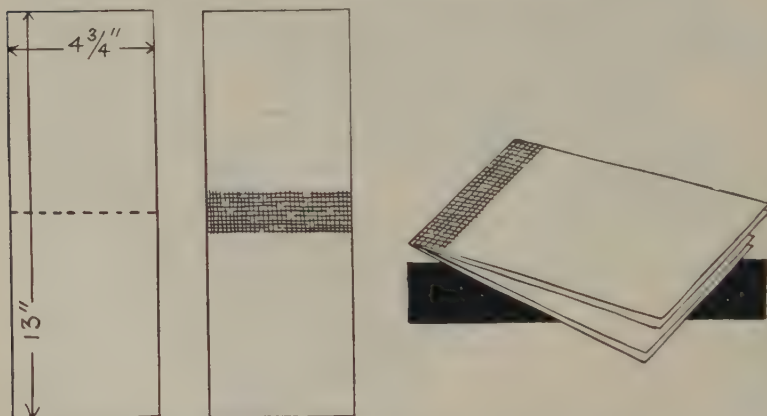

FIG. 227—DIAGRAM OF CUTTING, STRIPPING WITH MUSLIN, FOLDING AND INSERTING END LINING PAPERS
6. Find the center of one of these $13" \times 4\frac{3}{4}"$ sheets, mark it lightly in pencil, and affix a piece of gummed muslin $\frac{3}{4}"$ wide across the $4\frac{3}{4}"$ width *exactly* in the center of the 13" dimension. (Fig. 227.)